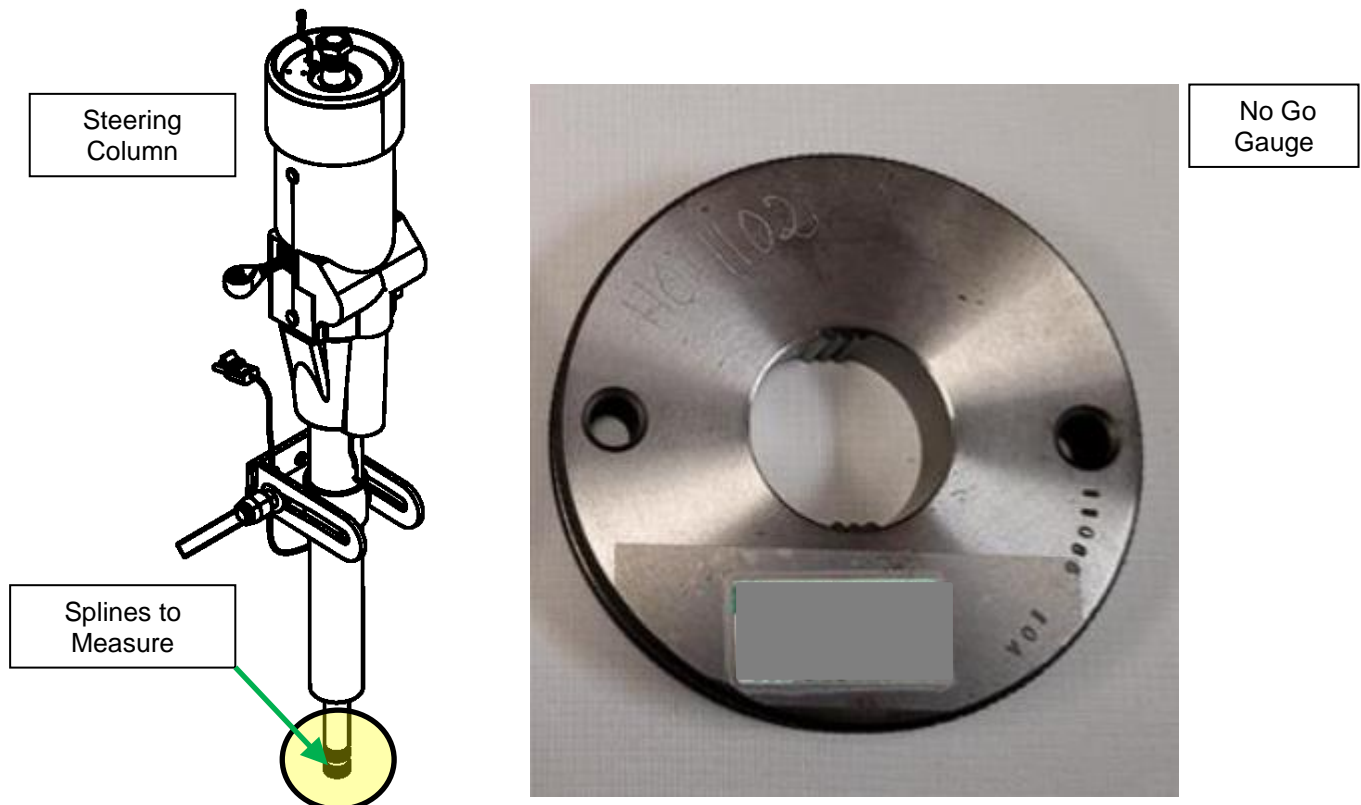

Figure 3: Steering Column Measurement
8. Using the No Go Gauge measure the splined end of the steering column. See Figure 3.